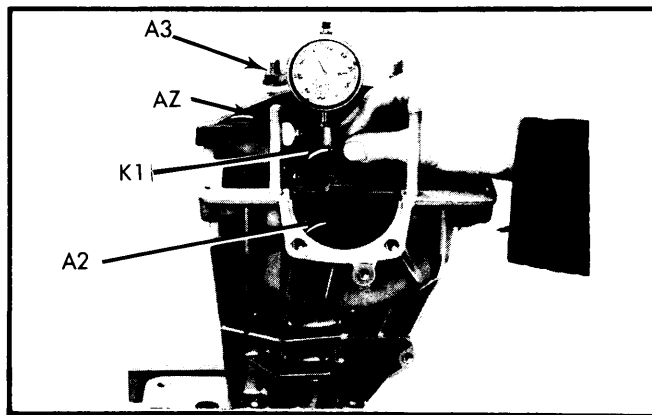

Fig. 14 Measuring Drive Pinion Installed Depth
5) Install tool AZ (for measuring pinion depth) into front half of housing and hold in position by means of bridge clamp A3. See Fig. 14. Tighten nuts of clamp to 7.2 ft. lbs. (10 N.m). Equalize distance between bridge pads and housing on both sides by using feeler gauges. Free feeler assembly A2 and ensure there is no contact with drive pinion.